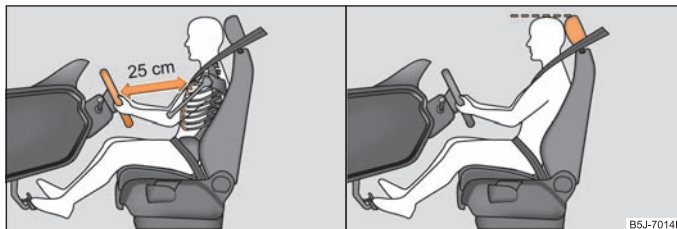

Fig. 108 The correct distance of the driver from the steering wheel / The correct head restraint adjustment for the driver
- Adjust the steering wheel so that the distance between the steering wheel and your chest is at least 25 cm ⇒ fig. 108 - left.
- Adjust the head restraint so that the top edge of the head restraint is at the same level as the upper part of your head ⇒ fig. 108 - right.
- The driver must maintain a distance of at least 25 cm to the steering wheel ⇒ page 114, fig. 108. Not maintaining this minimum distance will mean that the airbag system will not be able to properly protect you – hazard!
- Adjust the head restraint so that the top edge of the head restraint is at the same level as the upper part of your head ⇒ page 114, fig. 108 - right.
- Adjust the head restraints so that the top edge of the head restraints is at the same level as the upper part of your head ⇒ page 114, fig. 108.